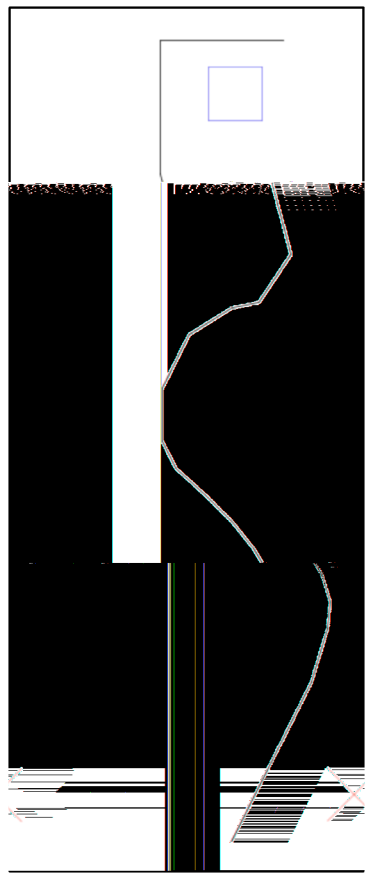

Figure 1
- **Task 4.1.** Follow a curving wall on the left hand side. The starting position will be approximately 10cm from the wall. After a few meters the wall will turn 90 degrees right. Detect this turn, and stop facing the end wall with the front of the robot 5cm from the end wall (Figure 1).